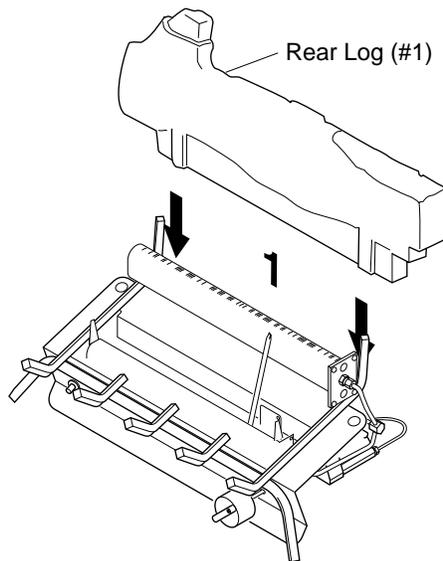

Figure 17 - Installing Rear Log
1. Slide rear log (#1) into place behind rear burner. Make sure flat areas at bottom of log are behind front burner (see Figure 17).